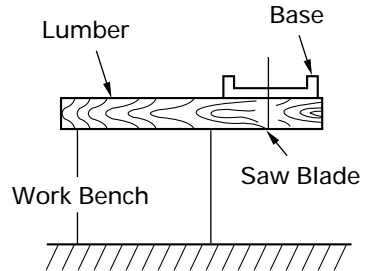

Fig. 7
7. Prepare a wooden work bench (Fig. 7)